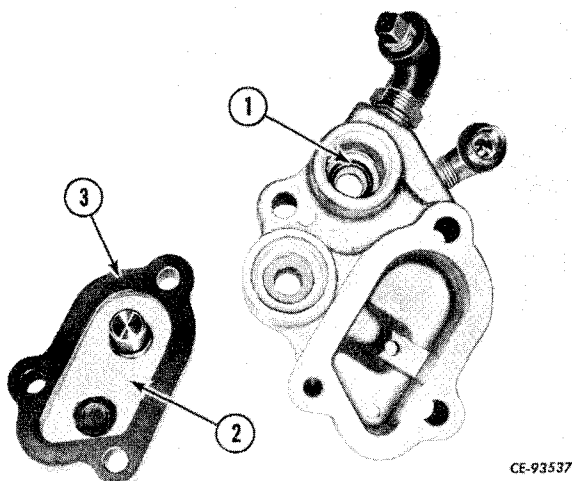

Figure 3-24
Remove the cover (2, Fig. 3-24) from the pressure regulator valve body. Discard the gasket (3). Remove and discard the "O" ring (1) at the base of the pressure regulator valve bore.